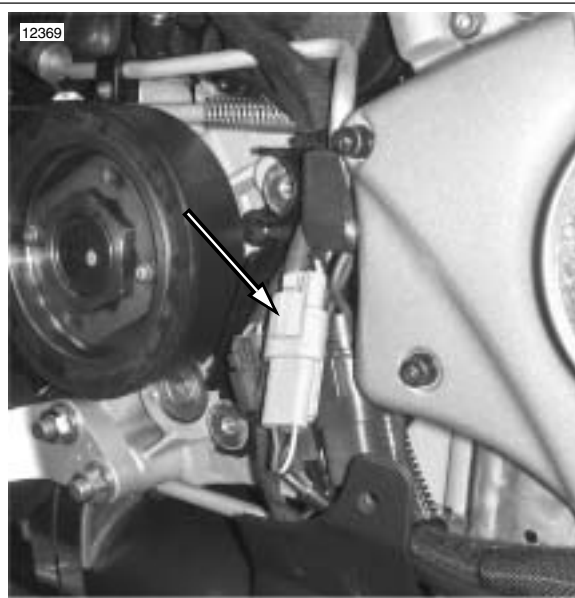

Figure 7-67. Vehicle Speed Sensor Connector [65]
1. See Figure 7-67. Locate the 3-place vehicle speed sensor connector [65] under the sprocket cover. See 7.25 SPROCKET COVER WIRING.
1. See Figure 7-67. Disconnect vehicle speed sensor connector [65]. Attach speedometer tester connector to vehicle speed sensor connector.